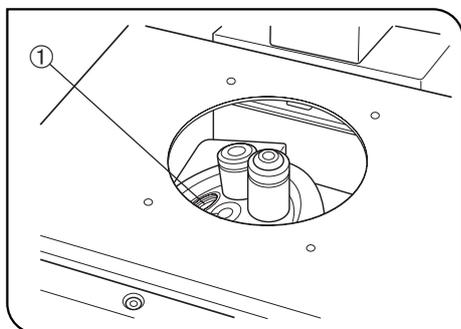

Fig. 92
(Fig. 92)
★ In the inverted microscope, the front lens of the objectives faces upward, and is more exposed to contamination than the objectives of upright microscopes. Therefore, if there are empty positions in the nosepiece, attach the dust caps ① provided. (Fig. 92)